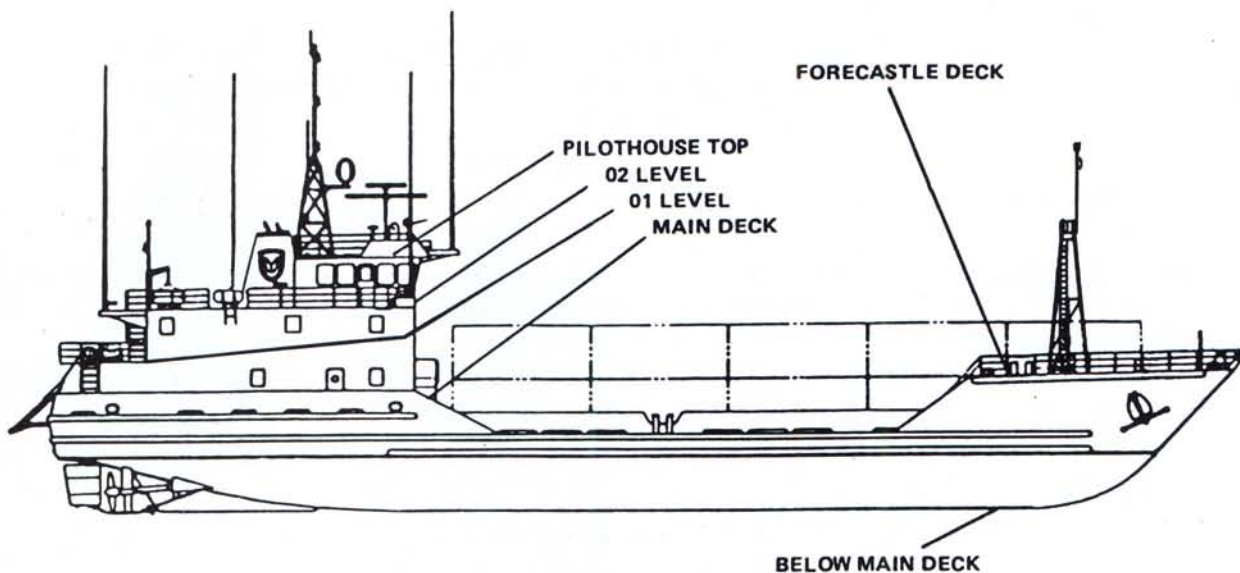

FIGURE 1-2. LCU Decks.
a. LCU Decks. Items shown on FIGURE 1-2 are described as follows:
(1) Pilothouse top. The pilothouse top (weather deck) contains radar antennas, searchlights, foam fire station, fire monitors, gyro repeater, satellite signals navigation set antenna and antenna amplifier, the binnacle compass and supports for cargo lights.
(2) 02 Level. The 02 Level includes, but is not limited to, the pilothouse and poop deck.
(3) 01 Level. The 01 Level includes, but is not limited to, crew accommodations, stern anchor winch, and the aft damage control locker.
(4) Main deck. The main deck includes, but is not limited to, the provisions storeroom, galley, mess room, recreation room, sick bay, arms control room, the air conditioning and emergency generator room, paint locker, boatswains locker, and the forward damage control locker.
(5) Forecastle deck. The forecastle deck (weather deck) is fitted with the anchor windlasses port and starboard bits, chain stopper, and roller fairlead.
(6) Below main deck. Below the main deck are the steering gear compartment, ballast, fuel, and water tanks, fire station, engine room, tunnel, bowthruster compartment, machine shop, stowage compartments, and engine operating station.
(7) DIMENSIONS